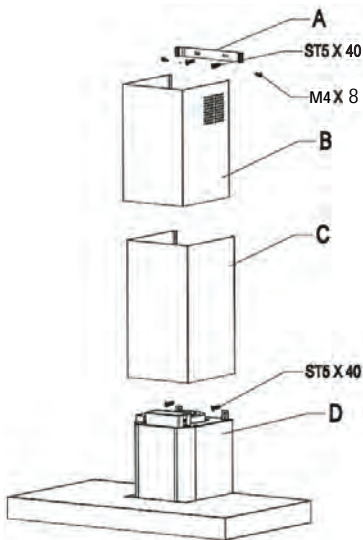

Fig. 7
- Fix the inner duct to both mounting bracket using 2(two) M4 x 8 screws provided (Fig. 7).